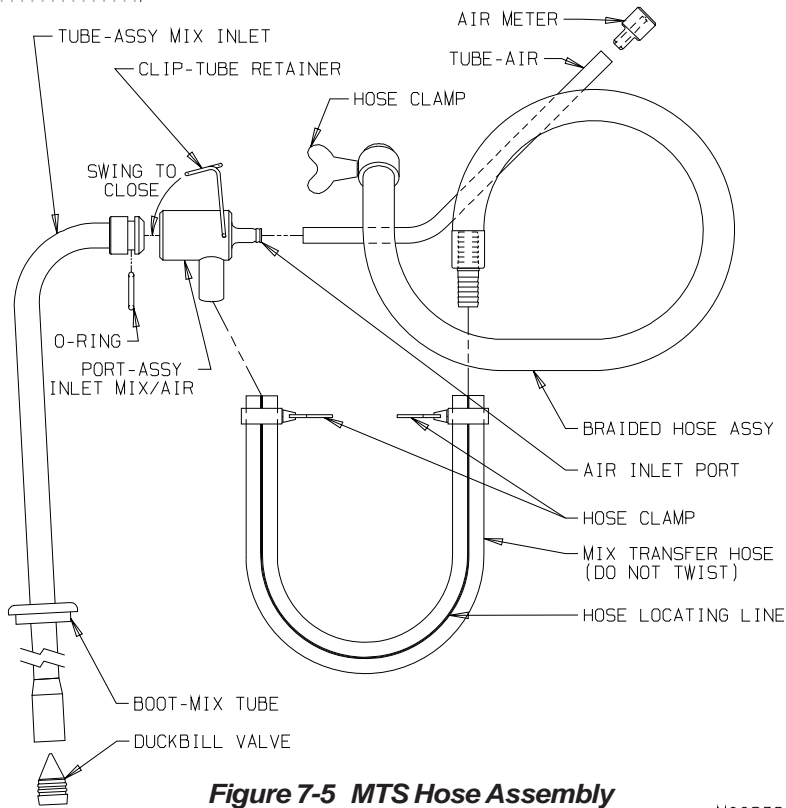

Figure 7-5 MTS Hose Assembly
12. Assemble the MTS hose assembly as shown in figures 7-5 and 7-6. The transfer hose has a red locating line. Hold the mix/air inlet port with the transfer hose mix port on your right and the barbed air port facing away from you. With the locating line up, slide the mix transfer hose onto the port. Then slide a clamp over the hose to secure it to the port. Finger tighten only! The thumbscrew must lie parallel to the mix/air inlet port.